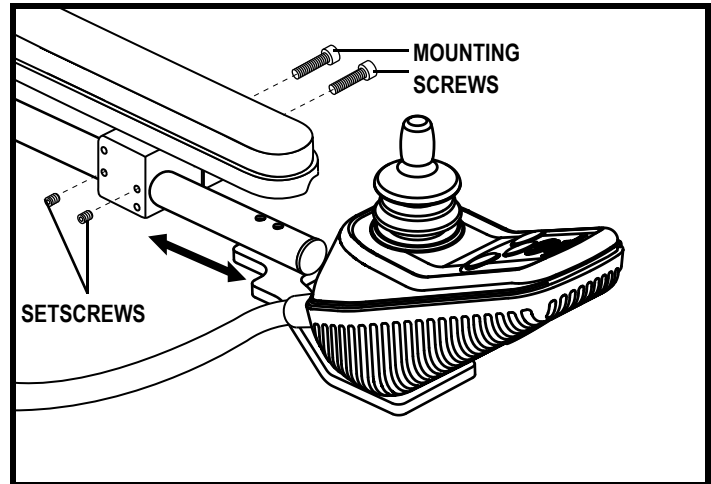

Figure 18. Controller Position Mounting Bracket
**NOTE:** *If your power chair is equipped with a Specialty Seat, Synergy Seat, or TRU-Balance Power Positioning System, loosen the setscrews in the mounting block, slide the controller in or out to the desired position, then tighten the setscrews. See **figure 18**.*
**NOTE:** *If your power chair is equipped with a Specialty Seat, Synergy Seat, or TRU-Balance Power Positioning System, loosen the mounting screws in the mounting block, transfer the mounting block and controller to the opposite armrest, and tighten the mounting screws. See **figure 18**.*